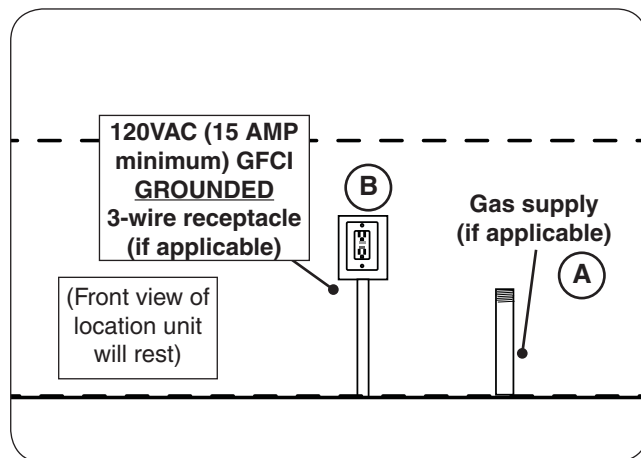

Fig. 21-1 Route gas and electrical (as applicable)
1. Route the gas supply into the area that the unit will rest over (see Fig. 21-1, A).
1. Wire the receptacle into the area that the unit will rest over (see Fig 21-1, B).